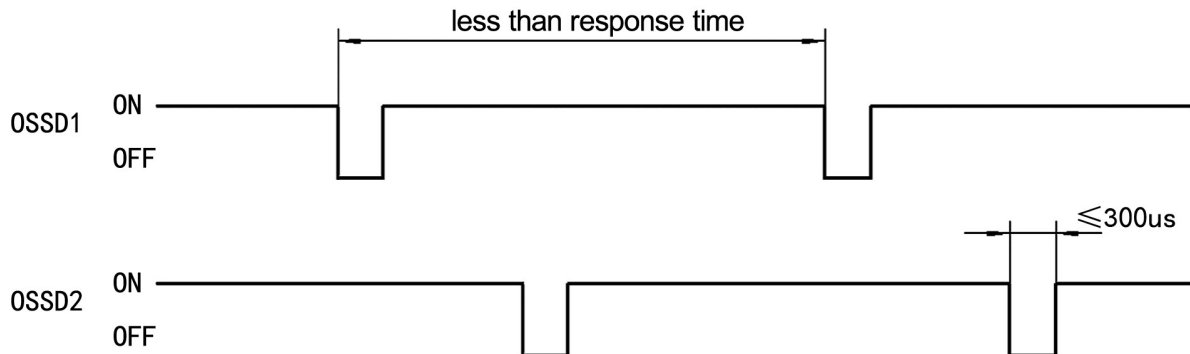

Fig 2.2.1 Security Output Detection Diagram
- While CT6 light curtain is in light-passing state, OSSDs outputs ON-state signal with periodical OFF-state signal, as shown in Fig 2.2.1. When OSSDs output circuit failure or be shorted with other interface signals, the detect signal varies, and feedback wrong state, the system turns into lockout state, the fault indicator flicker output, after the fault resolved, the system automatically steps out of the fault state.